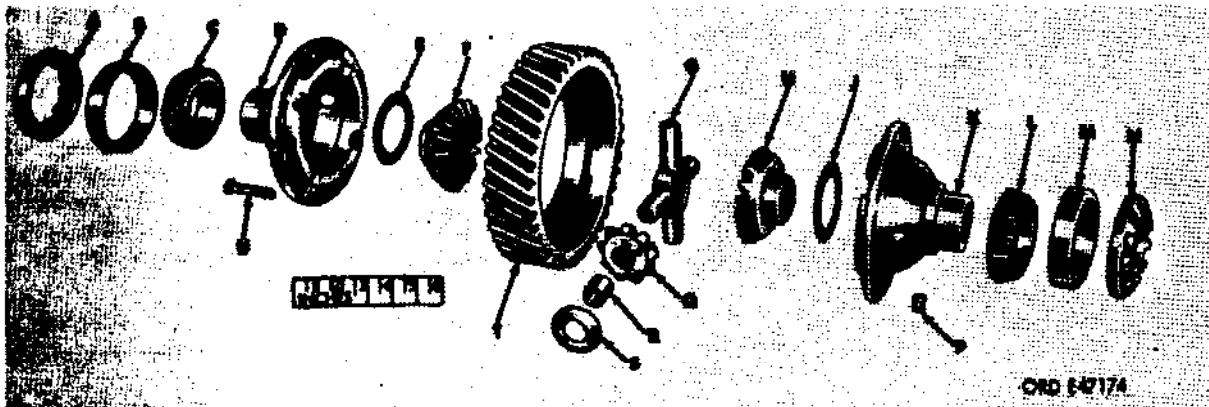

Figure 384. Differential case and helical drive gear assembly - exploded view
- (b) Remove locking wire. Remove four bolts (T and U), from carrier caps (S and X) and two cap screws (V) from differential bearing adjusting nut locks (W). Caps and carrier assembly must be punch marked to ensure installation in their original position. Lift caps from carrier assembly. Remove differential bearing adjusting nuts (refer to A and N, fig. 384).
- (c) Using a short bar, lift each side of case assembly slightly and remove differential bearing cups (refer to (B and M, fig. 384). This will permit removal of assembly without interference. Lift differential case assembly from carrier.
- (d) Remove differential case halves (D and K) and helical drive gear (T) from carrier assembly (refer to F, fig. 383). Mark differential case halves to ensure assembly in original relative positions. Remove locking wire from eight hex bolts (U) holding ring gear to case. Remove bolts and slotted nuts (P) and remove helical drive gear (T). Refer to figure 384.
- (e) To disassemble differential case, remove two differential side gears (F and H), two side gear thrust washers (E and J), four spider pinion assemblies (Q), four spider pinion thrust washers (S), and differential spider (G) (refer to fig. 384).